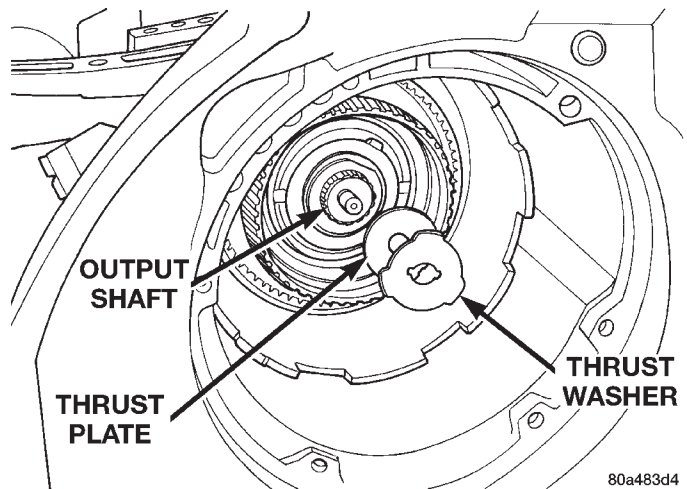

Fig. 77 Output Shaft Thrust Plate and Washer
(20) Remove output shaft thrust washer from output shaft (or from rear clutch hub) (Fig. 77).
- (21) Remove output shaft thrust plate and washer from output shaft hub (Fig. 77).